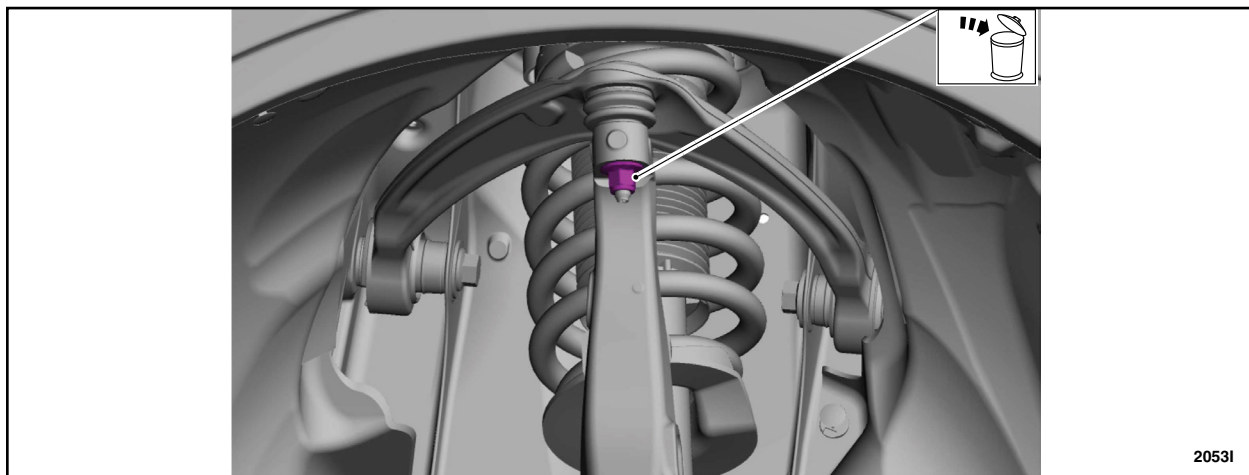

FIGURE 9
14. Remove and discard the upper ball joint nut. See Figure 9.